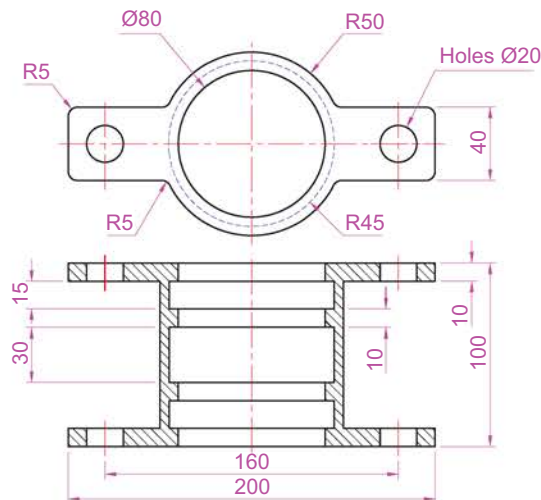

Fig. 11.37 Exercise 2
2. Construct a 3D model drawing of the separating link shown in the two-view projection (Fig. 11.37). With the **Slice** tool, slice the model into two parts and remove the rear part. Place the front half in an isometric view using the **ViewCube** and shade the resulting model.